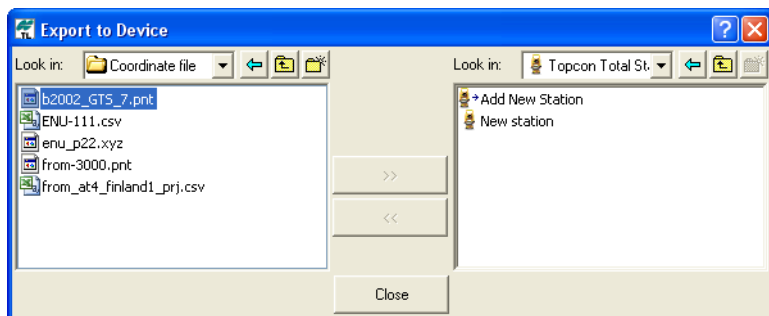

Figure D-5. Add New Station
4. In the right panel, select “Topcon Total Station” from the Look in drop-down list. Click **Add New Station** in the right panel (Figure D-5).